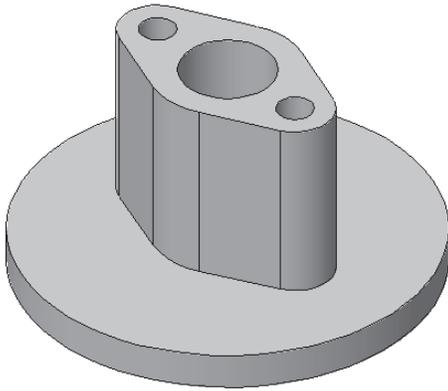

Figure 3-72 Model after creating the counter bore hole
- Create a counter bore hole using the **Drill Hole Feature** tool, refer to Figure 3-72.
3. Select the **Diameter Depth** radio button and set the value of **25 mm** in the **Depth to shoulder** spinner and choose **OK**; the holes are created, as shown in Figure 3-72.
11. Select the **Diameter Depth** radio button and set the value of **25 mm** in the **Depth to shoulder** spinner and choose **OK**. The model, after creating the hole is displayed, as shown in Figure 3-72.